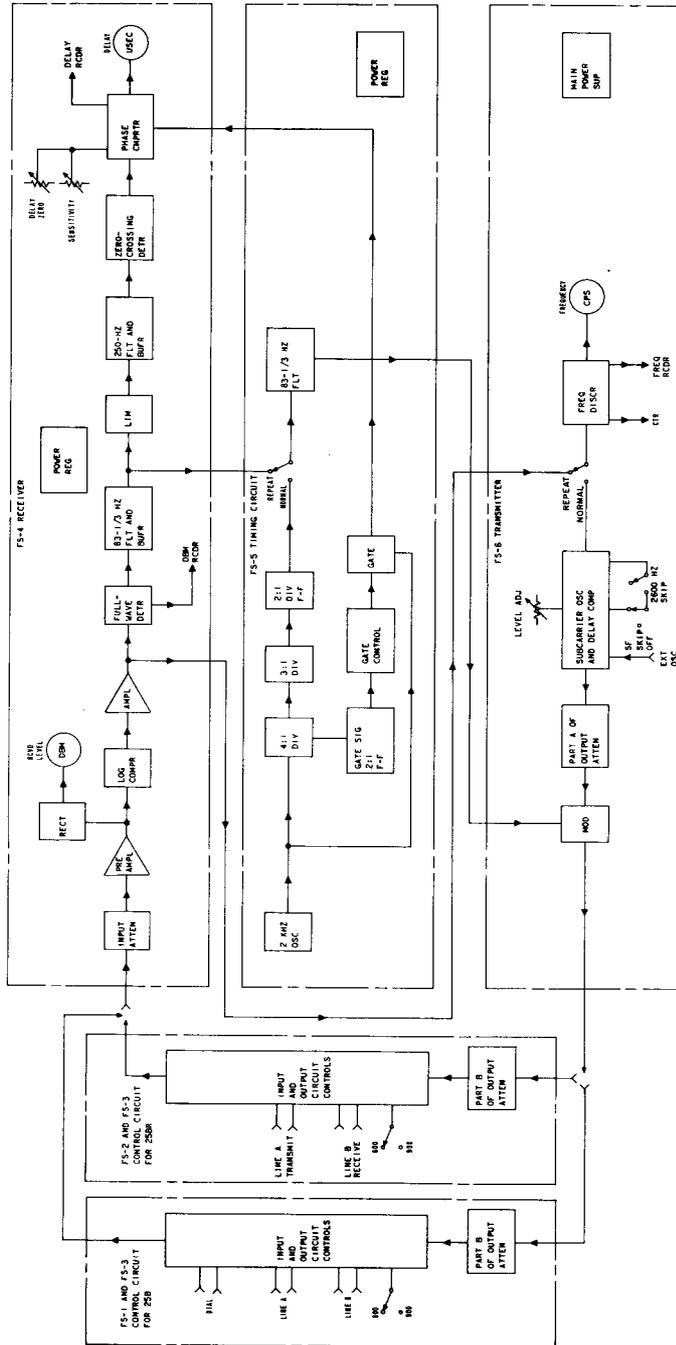

Fig. 5 — Block Diagram
- 5.01** The following paragraphs and Fig. 5 through 9 are intended to give a general understanding of the circuit operation of the 25B and 25BR sets. Detailed circuit operation is covered in CD-99770-01 and the associated SD drawings.
- 5.03** The transmitter circuit (FS-6 of Fig. 5) generates the subcarrier frequency, modulates it with the 83-1/3 Hz signal, and transmits the resulting wave via the control circuit output attenuator, switches, and line jacks to the line. When the set is operating in the *normal* mode, the transmitter subcarrier oscillator supplies the variable frequency required for the test range desired (300 to 3500 Hz). In this mode, the modulating 83-1/3 Hz signal is received from the divider output of the timing circuit. When the set is operating in the *repeat* mode, however, the 83-1/3 Hz signal is received over the incoming test line through the control circuit and receiver circuit. This signal is used to modulate a fixed single frequency (usually set at 1800 Hz) from the transmitter subcarrier oscillator for transmission over the return test line. The use of an external oscillator for measurements above 3500 Hz is described elsewhere in this section. Note that the frequency meter associated with the transmitter will indicate the transmitter oscillator frequency only in the *normal* mode. In the *repeat* mode, this meter indicates the subcarrier frequency received over the test line. To check the fixed frequency of the oscillator used in the *repeat* mode, the mode switch must be turned to the NORMAL position. After the frequency is observed, the mode switch must be returned to the REPEAT position to continue the test.
- 5.04** The receiver circuit (FS-4 of Fig. 5) receives the signal from the test circuit. The signal level is indicated on the RCVD LEVEL meter. The relative envelope delay at the transmitted subcarrier frequency is indicated on the DELAY meter. When the set is operating in the *repeat* mode, the receiver circuit demodulates the received signal, recovers the 83-1/3 Hz envelope, and uses this recovered signal to remodulate the fixed (1800 Hz) subcarrier for return to the originating test location.
- 5.05** The timing circuit (FS-5 of Fig. 5) generates the 83-1/3 Hz modulating sine wave for the transmitter and a 250-Hz reference signal for envelope delay measurements in the receiver. This reference signal is a narrow pulse, controlled relative in time to the modulating signal in the transmitter. Its timing can be shifted in increments of 500 μ s for comparison in the phase comparator with the signal received over the test line for relative delay measurement. When the set is operating in the *repeat* mode, the timing circuit is not used, but its 83-1/3 Hz filter provides additional filtering for the envelope signal (received over the test line) before remodulating the fixed frequency carrier that is returned to the near-end set.